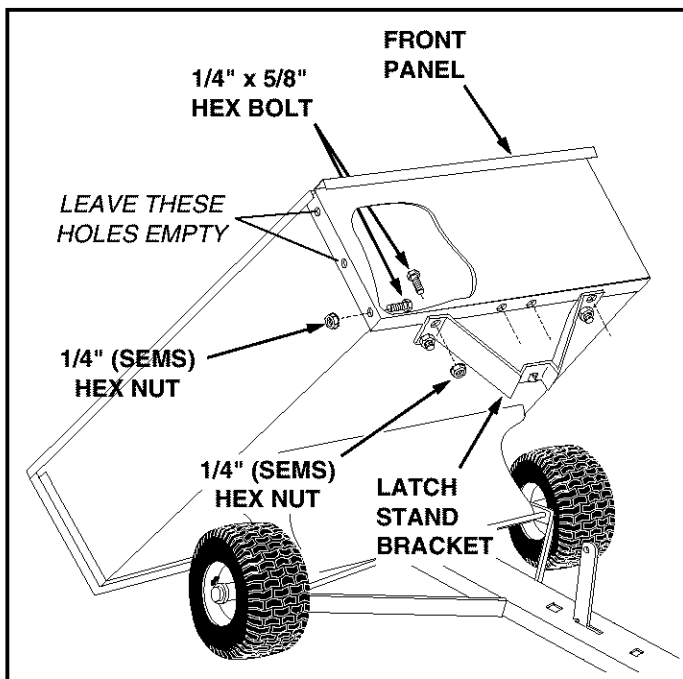

FIGURE 9
- Release the latch lock lever and tilt the cart bed back. See figure 9.
- Assemble the front panel to the cart, sliding the bottom lip of the panel between the cart and the latch stand bracket. Secure with six 1/4" x 5/8" hex bolts and 1/4" SEMS hex nuts. Leave the upper holes on the sides empty. **Do not tighten yet.** See figure 9.